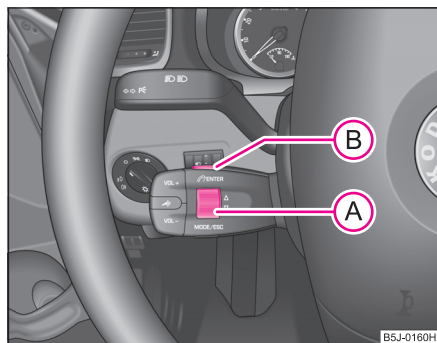

Fig. 102 Multi-functional module: control buttons
- You can scroll through the telephone memory for individual names or menus by slowly turning the thumbwheel (A) ⇒ fig. 102.
- You can scroll through from A to Z or from Z to A within the telephone memory by slowly turning the thumbwheel (A) downwards or upwards.
- You can always return to one level higher in the menu of the information display by pressing the button (B) at the top for a lengthy period.
- The selected menu is displayed by briefly pressing the button (B).